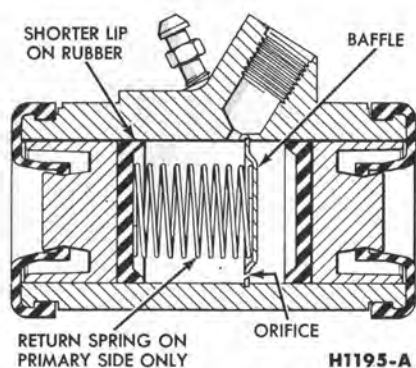
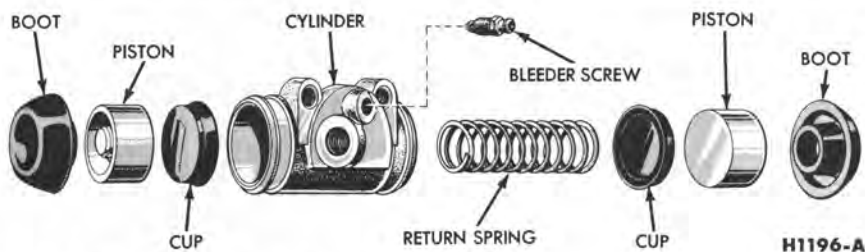
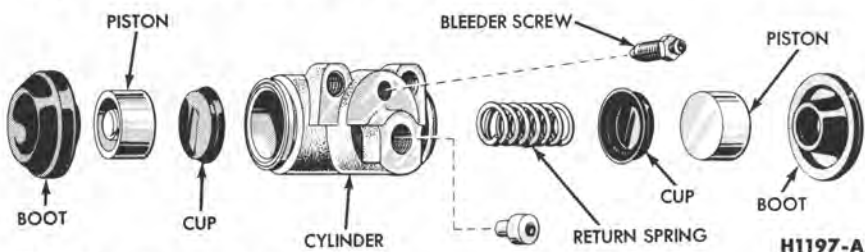

FIG. 8—Front Brake Cylinder—Late 1961 and All 1962 Models
FIG. 9—Front Brake Cylinder—Early 1961
FIG. 10—Rear Brake Cylinder
On later 1961 and all 1962 Falcons, the front cylinder has been redesigned with a fixed baffle built into the cylinder between the two rubber piston cups (Fig. 8). Because of this baffle, the cylinder cannot be honed; therefore, if inspection indicates the need for honing, the cylinder will have to be replaced. If honing is not indicated, all parts except the baffle can be replaced without removing the cylinder.
This later design front cylinder can be identified by depressing the two pistons. Since the return spring is installed between the baffle and the front (primary) cup, the primary piston will return by spring pressure (Fig. 8). The secondary piston will remain depressed, because there is no spring between the baffle and the secondary cup. On the early design cylinder (Fig. 9), both pistons will return by spring pressure when depressed.
All rear wheel cylinders (Fig. 10) and the 1960 and early 1961 front cylinders (Fig. 9) can be honed and rebuilt as outlined in the following procedures.
1. Remove the rubber boots (Figs. 9 and 10). Remove the pistons, cups, and return spring from the cylinder bore.
3. Insert the return spring, cups and pistons (Figs. 9 and 10) in their respective positions in the cylinder bore. Place a boot over each end of the cylinder.